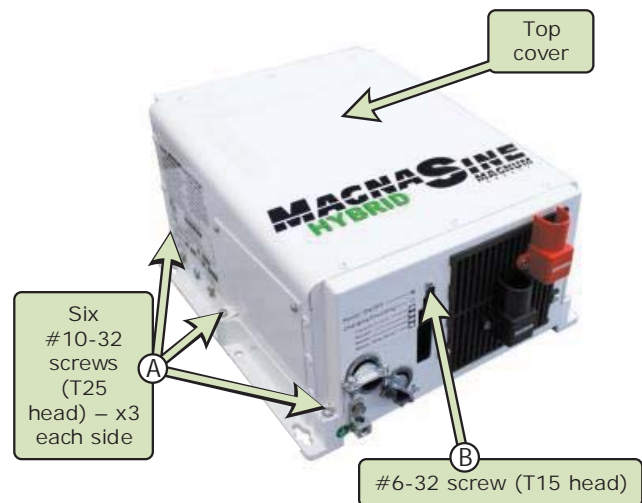

Figure 1, Top Cover Screws
1. Locate and remove the six #10-32 screws (T25 head) (Figure 1, Item A) holding the cover to the inverter base and the #6-32 screw (T15 head) (Figure 1, Item B) on the front of the inverter.